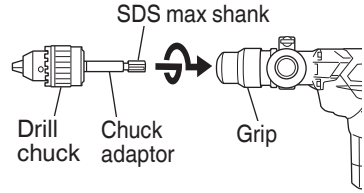

Fig. 14
- (2) Attaching chuck adaptor to drill chuck (Fig. 14)